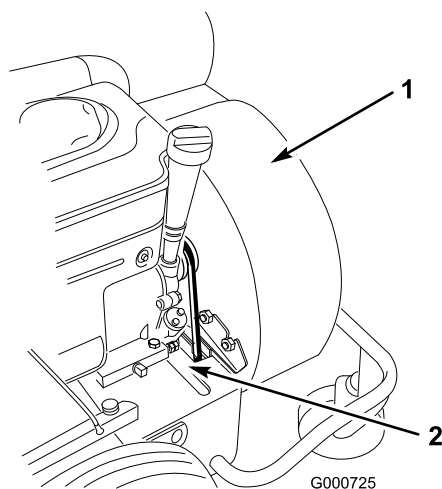

Figure 36
11. Insert the belt over the pulley and down through the opening (Figure 36).